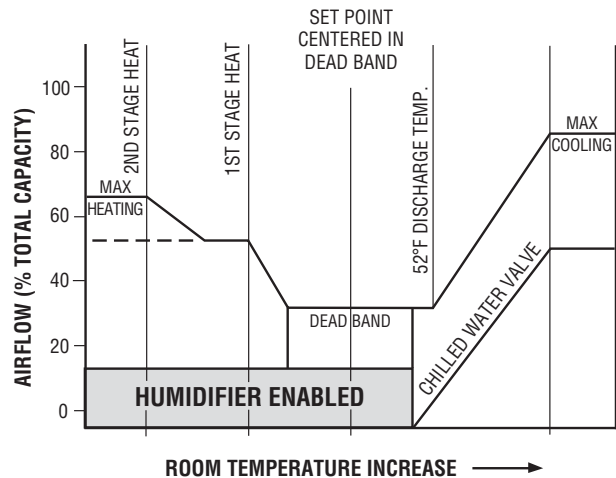

Figure 2: Control Sequence DN7H
The standard Engineered Comfort KMD-7303(C) digital controller features 4 outputs. 2 universal outputs are programmed as 0 – 10 Vdc analog outputs to control the variable air volume ECM motor and modulating Chilled Water valve. There are also 2 triac outputs. One is a dual-staged triac to control 1 or 2 stages of heat. The other spare triac output is available for an optional on / off application such as a humidifier (see Figure 2: Control Sequence DN7H).